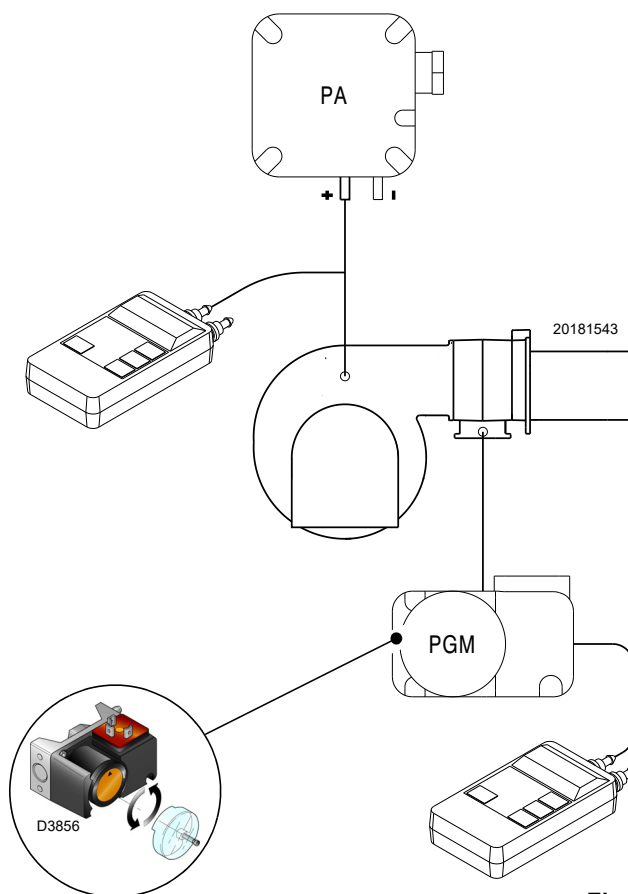

Fig. 31
- Adjust the maximum gas pressure switch (Fig. 31 on page 28) to the end of the scale.
Adjust the maximum gas pressure switch (Fig. 31) after making all other burner adjustments with the maximum gas pressure switch set to the end of the scale.